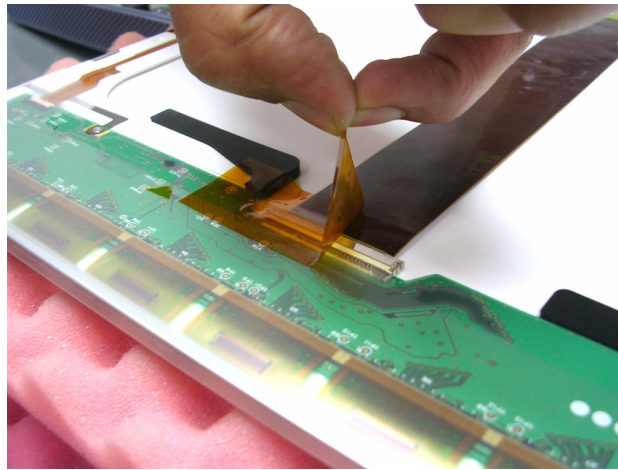

Figure 8-76 Removing Tape from LCD Rear Panel
- 1) Remove the kapton tape from the LCD rear panel and disconnect the flex cable - see Figure 8-76.